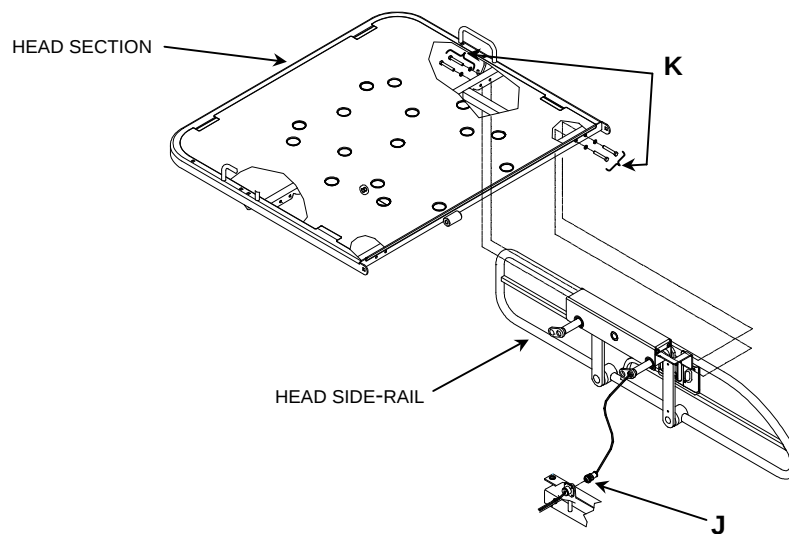

Figure 4.1C
4. Unscrew the lock ring of the side-rail cable plug (**J**, fig. 4.1C, page 25) and remove cable from the bed receptacle.